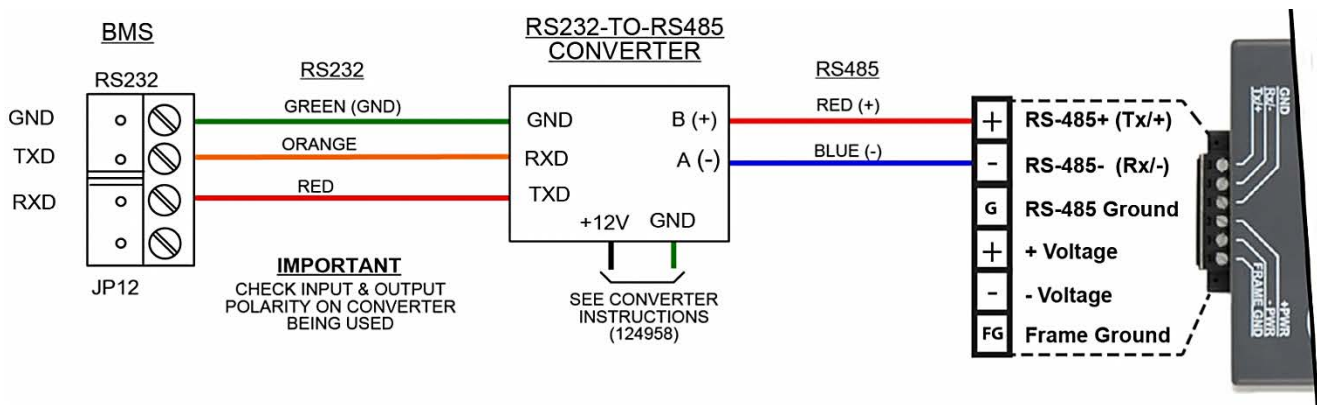

Figure 3-8: RS-232 Connection to BMS
- Refer to Figures 3-8 and 3-9 to locate the internal RS-232 connector JP12 (BMS) or JP5 (BMS II/ACS) inside the wiring area of the ACS/BMS II.
- On the RS-485 side of the converter (Figure 3-8 and 3-9), connect the wire leads as follows: